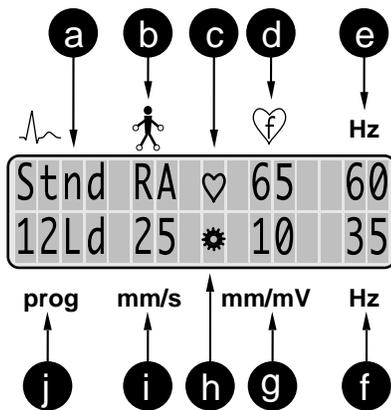

Figure 5-1. 12 Lead mode display (repeated)
- change the sequence of recorded leads ( ). The display indicates the leads recorded first - **a**, Figure 5-1.